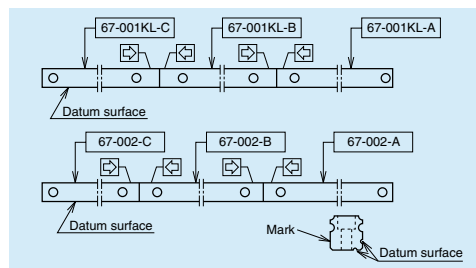

Fig. 10.25
- The rails with butting specification are marked with alphabet (A, B, C ...) and an arrow on the opposite side of the mounting datum surface. Use the alphabets and arrows for assembly order and direction of the rail (**Fig. 10.25**). The random-matching rails for butting specification are only marked with the arrows.